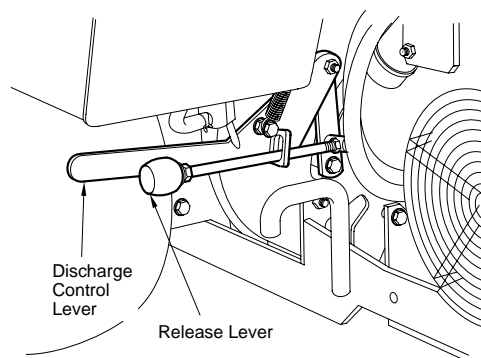

Figure 4-3 Hopper/Side Discharge Control
13. **Hopper/Side Discharge Control (Figure 4-3).** This lever is used to select either discharge of grass into the hopper or through the side discharge chute.